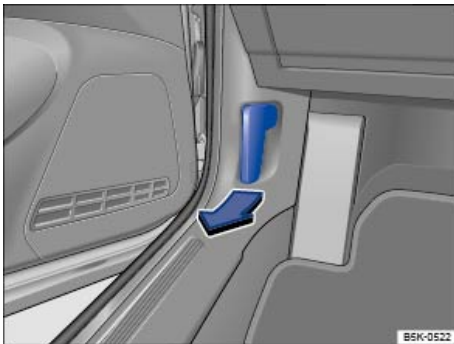

Fig. 154 In the footwell on the driver side: Inside engine hood release lever.
- Open the driver door and pull the inside hood release lever in the direction of the arrow ⇒ fig. 154.